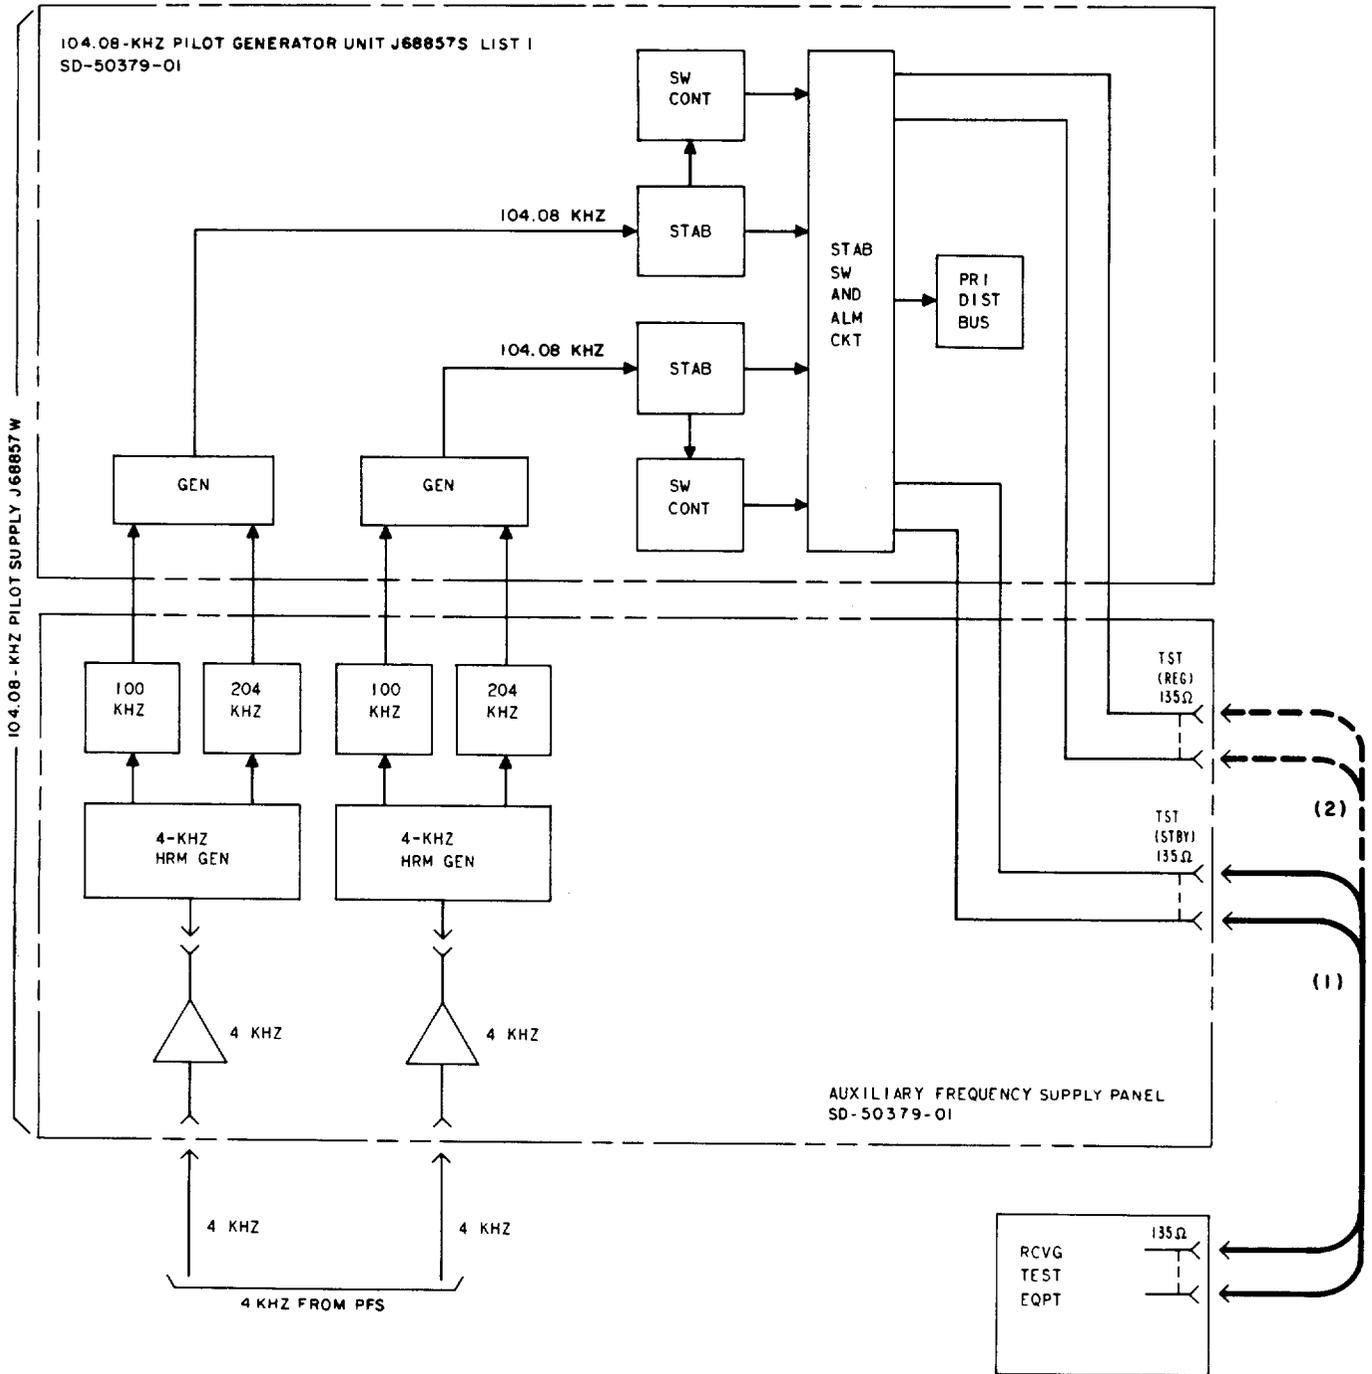

Fig. 5—Stabilizer Output Test for Pilot Supply J68857W
2	Measure the pilot power at the TST STBY jack [patch (1), Fig. 5].
8	Remove patch (1), Fig. 5.  ◆ Check regular stabilizer output ◆
9	Make patch (2), Fig. 5.
16	Remove patch (2), Fig. 5.  B. 104.08-kHz Switch Control Output Measurement  ◆ Check regular switch control output ◆